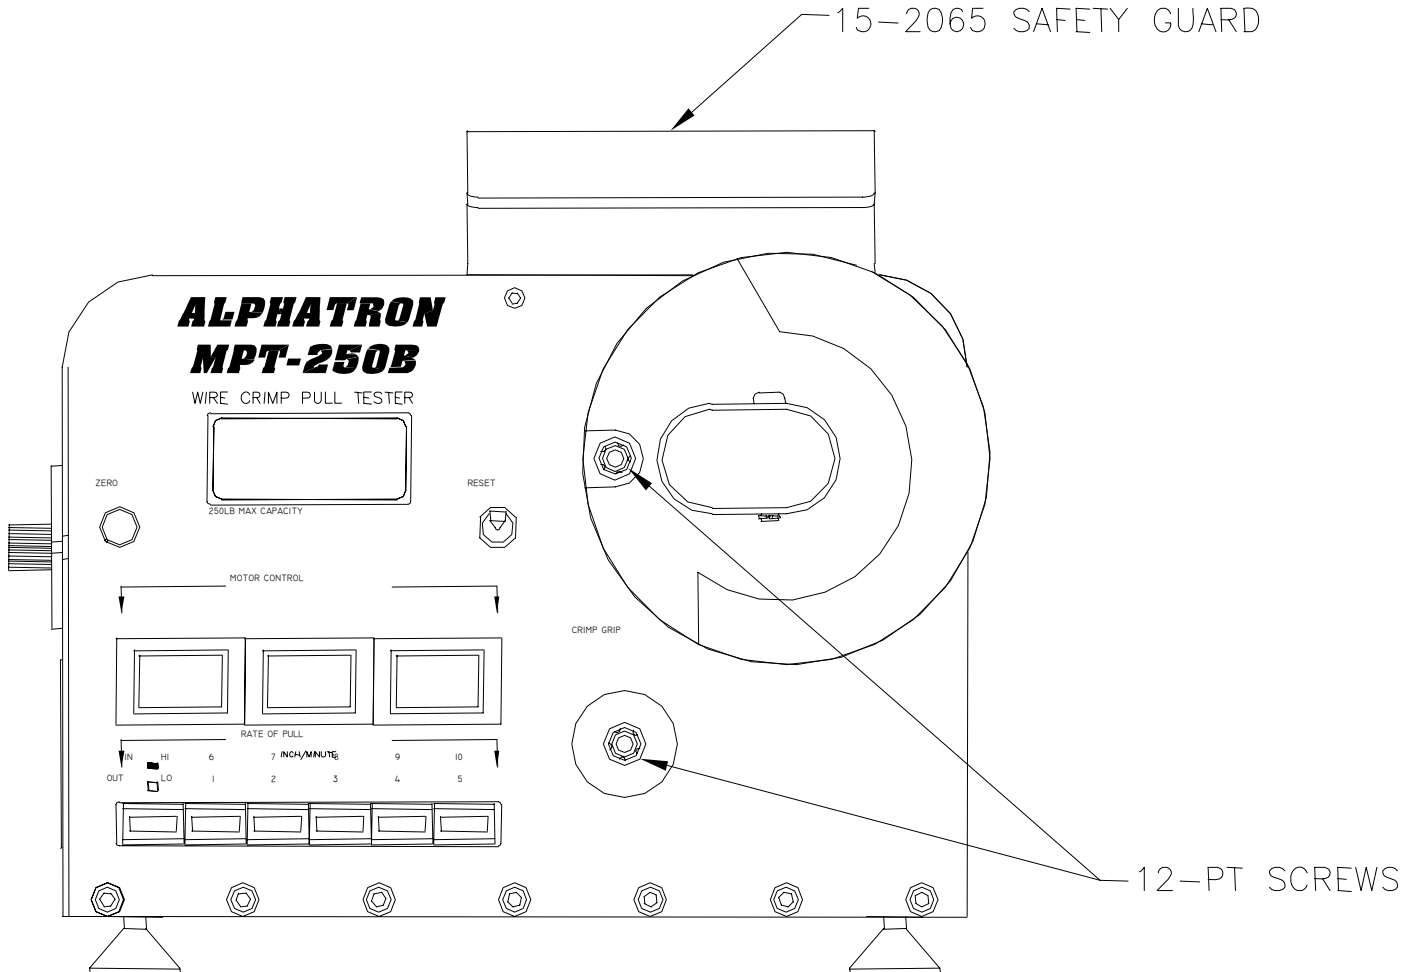

FIGURE 1
- 3.4 Push the yellow RESET button to return the pull wheel to the starting position as shown in Figure 1.
- 3.5 Thread the cable through the 12-point screws as shown in Figure 1, and terminate the cable with the appropriate Safe-T-Cable tool®.
4.2 Thread the cable through the 12-point screws as shown in Figure 1, and terminate the cable with